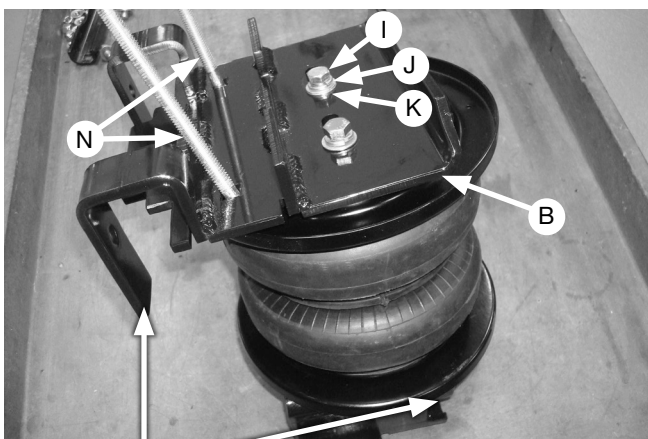

Fig. 6
3. Flip the assemblies over and adjust the roll plates position for mounting hole access. Insert two 3/8" carriage bolts (N) down through the top of the lower bracket (B) as shown (Fig. 6). Install the lower bracket onto the assemblies making sure the flange on the lower bracket is opposite of the fitting on top of the air spring. Attach with 3/8" hex-head cap screws (I), lock washers (J) and flat washers (K). Tighten hardware finger-tight only.